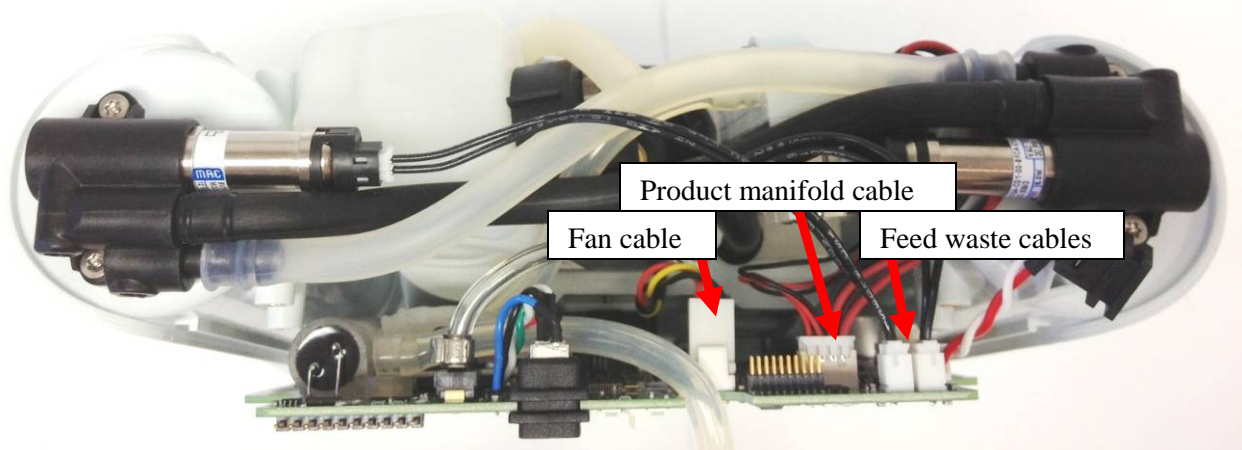
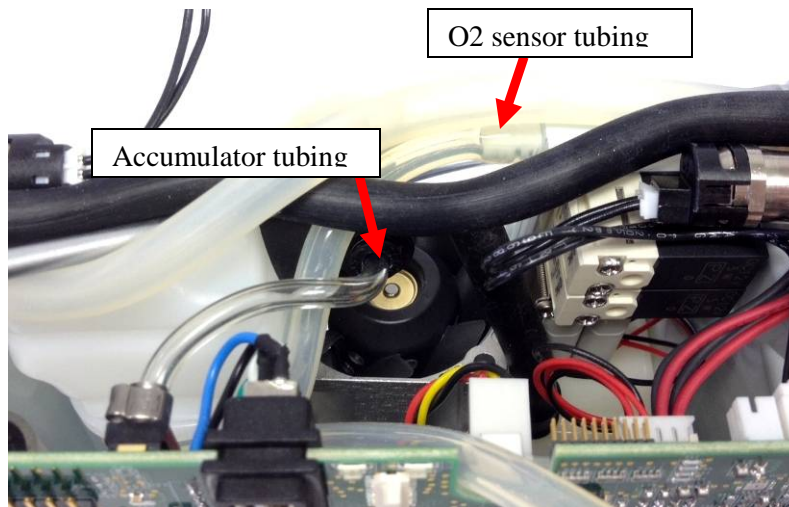

Figure 11: Disconnect all cables that connect device to motherboard
Figure 12: Disconnect all tubes that connect to the motherboard
3. Carefully pull the motherboard about a half inch away from the device, making sure not to bend it in any way. With the cables and tubing exposed, gently unplug the two feed waste manifold cables, the product manifold cable, and the fan cable from the motherboard (Figure 11).
4. Unplug the oxygen sensor tubing from the product manifold by pulling the tube off of the barb. Also unplug the accumulator tubing from the accumulator cap by pushing down on the retaining ring of the quick connect while pulling gently on the tubing (Figure 12). *If the tube is pulled out too far the pressure sensor can break free from the motherboard.*
3. To re-install the motherboard, make sure the screw holes are aligned with those on the chassis before reattaching the accumulator tubing and the oxygen sensor tubing (Figure 12). Make sure the oxygen sensor tube is oriented under the two T tubes. Next, reattach the feed waste manifold cables, the product manifold cable, and the fan cable (Figure 11). Gently pull on each tube/cable to ensure a complete connection.